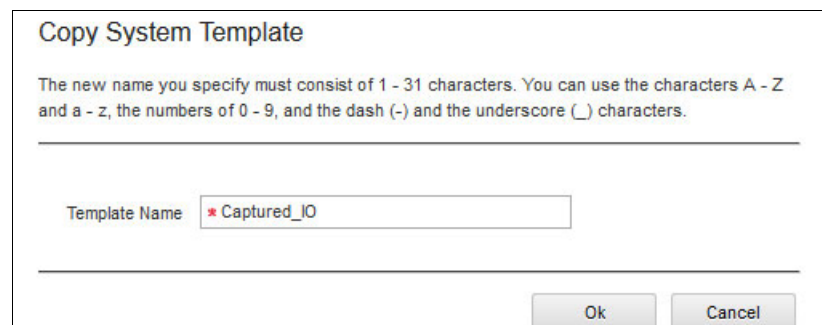

Figure 2-30 System template: Copy name
2. Enter an appropriate system template name, as shown in Figure 2-30.